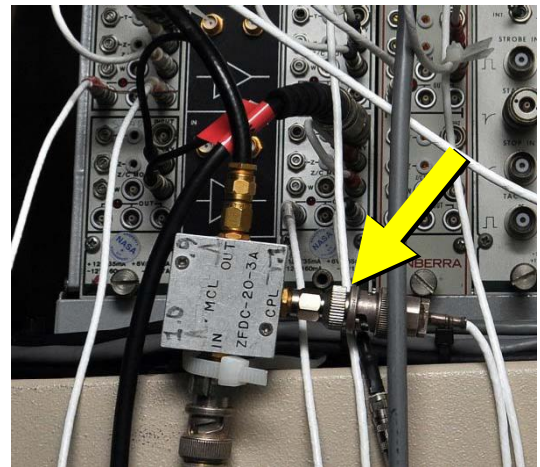

Figure E-1: Arrow on the directional coupler shows the port used to send the signal to the oscilloscope
2. **Verify start diode connectivity** – Check the connection between the directional coupler and the oscilloscope (Figure E-1).